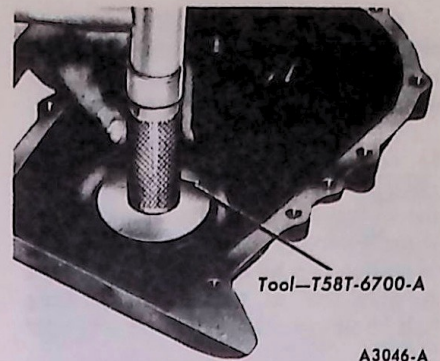

FIG. 17 Installing Oil Seal
3. Coat a new seal (Fig. 17). Drive the seal in until it is fully seated in the recess. Check the seal after installation to be sure the spring is properly positioned in the seal.